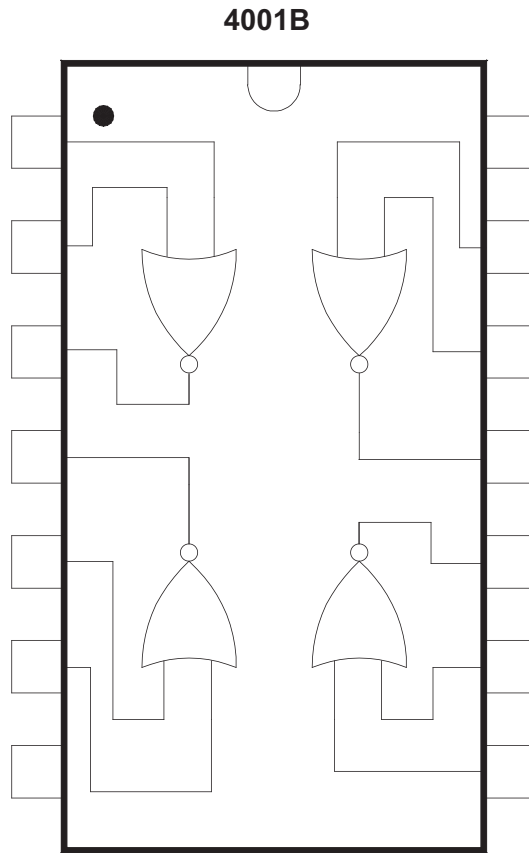

Fig. 12.3
(b) Fig. 12.3 shows the outline of a CMOS 4001 quad NOR gate IC, with the internal connections to the logic gates shown.
- (i) Add pin numbers to the IC outline in Fig. 12.3. [2]
- (ii) Add the positive and 0V connections to the IC outline in Fig. 12.3. [1]